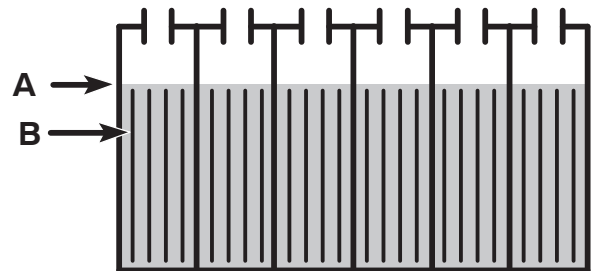

FIG. 22
The electrolyte level (A) should slightly cover the battery plates (B). Add distilled water as needed. **DO NOT OVERFILL**, the fluid may expand and overflow while charging. Replace cell caps before charging (Figure 22).